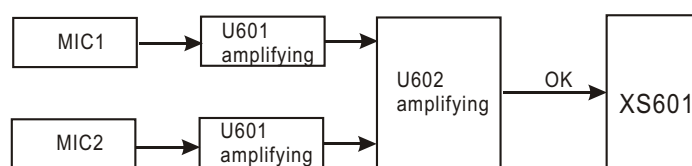

Figure 8.1.2.1 MIC circuit block diagram
1. MIC circuit block diagram is shown in the figure 8.1.2.1: